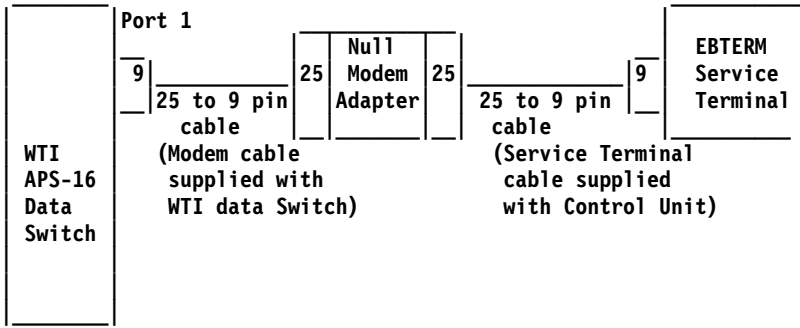

Figure 11-4. Local Setup and Test of APS Switch
- b. Connect the 25 pin end just unplugged to the end of the Service Terminal cable. Use the Null Modem Adapter with the gender changer between the two 25 pin connectors (see Figure 11-4 on page 11-20).